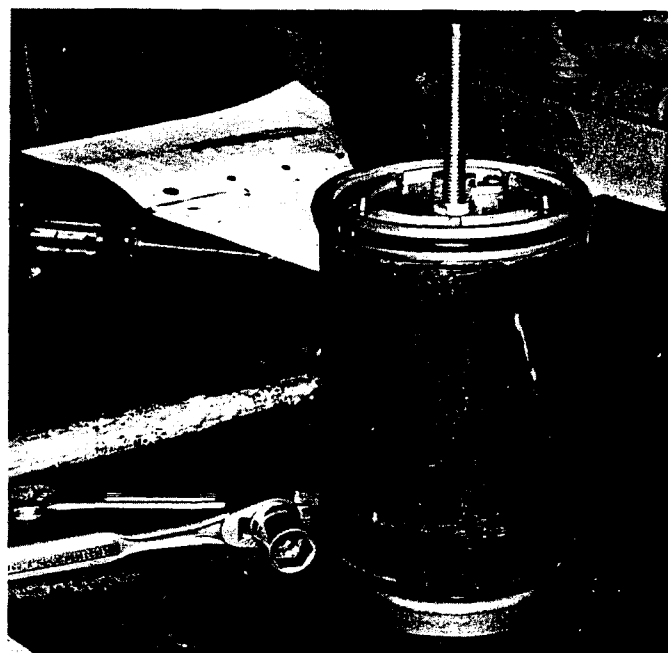

Figure 15-1
2. Install the previously rebuilt desiccant sealing plate on the cartridge bolt so that the ball check retaining clip remains visible (see Figure 15-1 & 15-2).
9. Using the lock nut draw the assembly together to approximately half of the spring's free height. While slowly turning the cartridge, tap the side of the shell with a plastic mallet (See Figure 14). This allows the desiccant material to settle properly into place. Continue to tighten the nut, making sure all items are properly aligned. Tighten nut firmly using an 11/16" socket or box wrench. (See Figures 15-1, 15-2)